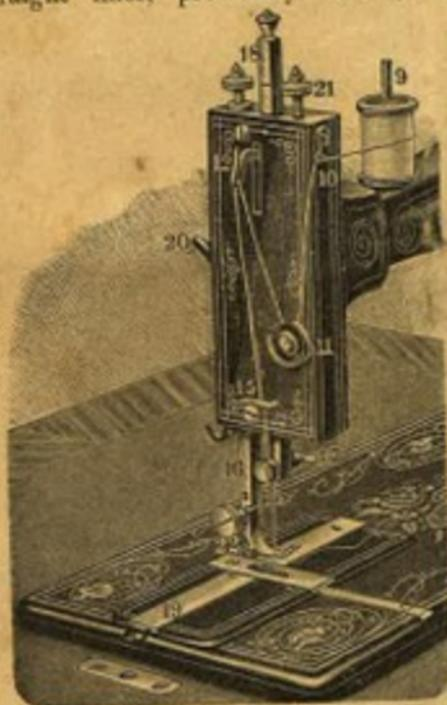

Figure 5.
First remove the fabric and to do this, it will be necessary to lift the needle to the highest attainable point by turning the upper fly-wheel, and to raise the presser-lever 20 (Fig. 5). In the place of the fabric so removed, now
**Shuttle Ejector** which, on opening the slide 19 (Fig. 5) on the left hand side, will so raise the shuttle out of its box as to enable one to get hold of it with perfect ease. Now com-
is inserted in the following manner. Raise the needle-bar to its highest point, loosen the needle-clamp screw 17 (Fig. 5) with the right hand, and take out the needle. The needle has a long groove on one side and a short one on the other. Take it between the thumb and forefinger of the left hand in such a manner as to bring the long groove to face you, guide the blunt end of the needle under the needle-clamp 16, into the needle-slide, and with the right hand tighten the needle-clamp screw 17.
Thereupon turn the needle-bar downwards until the notch upon the needle-bar (the needle-guage-mark 18, Fig. 5) is in a line with the upper surface of the head plate, loosen the needle-clamp and so fix the needle that the eye of the needle shall be level with the upper surface of the stitch plate. Having finally ascertained that the eye stands true and straight, tighten the needle-clamp-screw again.
After threading the needle, open the slide 19 (Fig. 5), lay the shuttle in the shuttle-box with its point towards the needle, the flat spring-bar uppermost.
Thereupon place the material under the presser foot, lower the latter by means of the lever 20 (Fig. 5) and commence
The tension of the upper thread is regulated by means of the tension-screw 21 (Fig. 5). If this screw be turned inwards